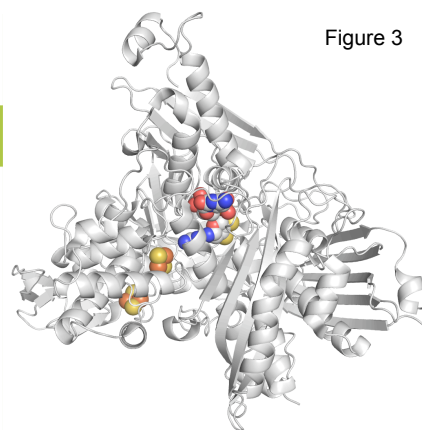

Figure 3
- Study of aldehyde oxidoreductase (Figure 3 & 4) from *Desulfovibrio gigas*, highly promiscuous enzyme involved in energization and detoxification of the bacterial cell. It is also a model system for xanthine and aldehyde oxidase.